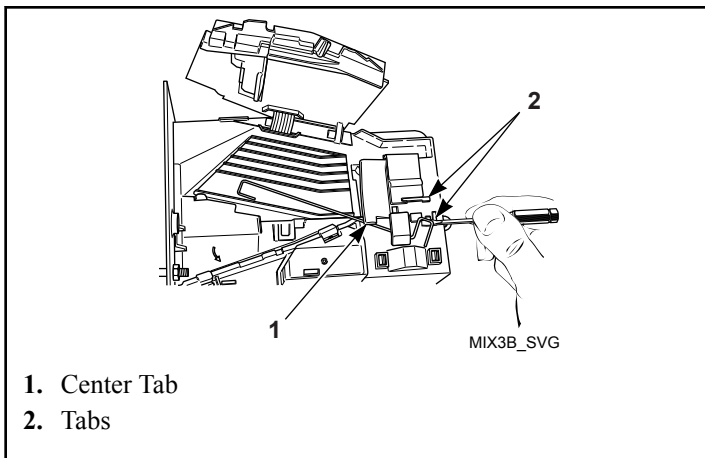

Figure 7
6. Rotate spring clockwise, 40 to 60 degrees, until it is free from right tabs. Refer to *Figure 7*.
7. Use screwdriver to remove spring from center tab. Refer to *Figure 7*.